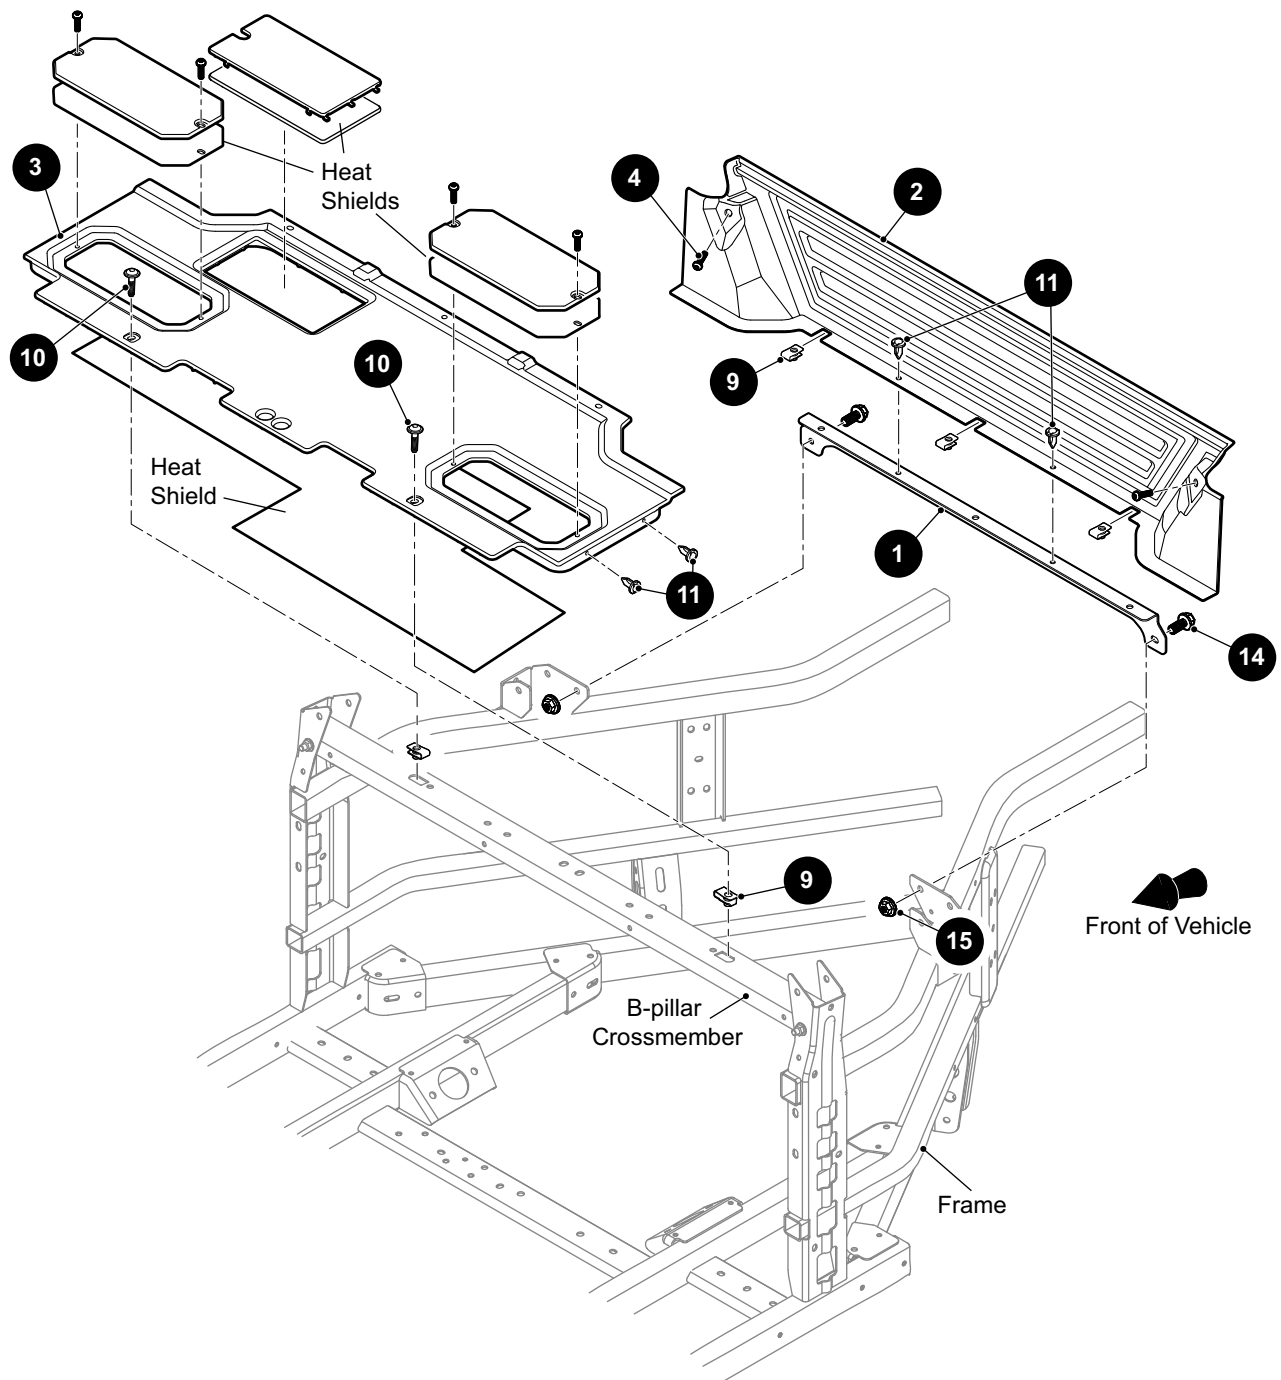

Fig. 14 Extended Cab Components
1. Remove the plastic rivets (11) that secure the edges of the cargo tray (3) to the side panels (See Fig. 14).
2. Remove the screws (10) that secure the cargo tray to frame and the cab closeout panel (2). Lift the cargo tray out of the vehicle.
1. Remove the screws (4) that secure the top edges of the closeout panel (2) to the ROPS tubes (See Fig. 14).
2. Remove the plastic rivets (11) that secure the panel (2) to the bracket (1). Remove the closeout panel.